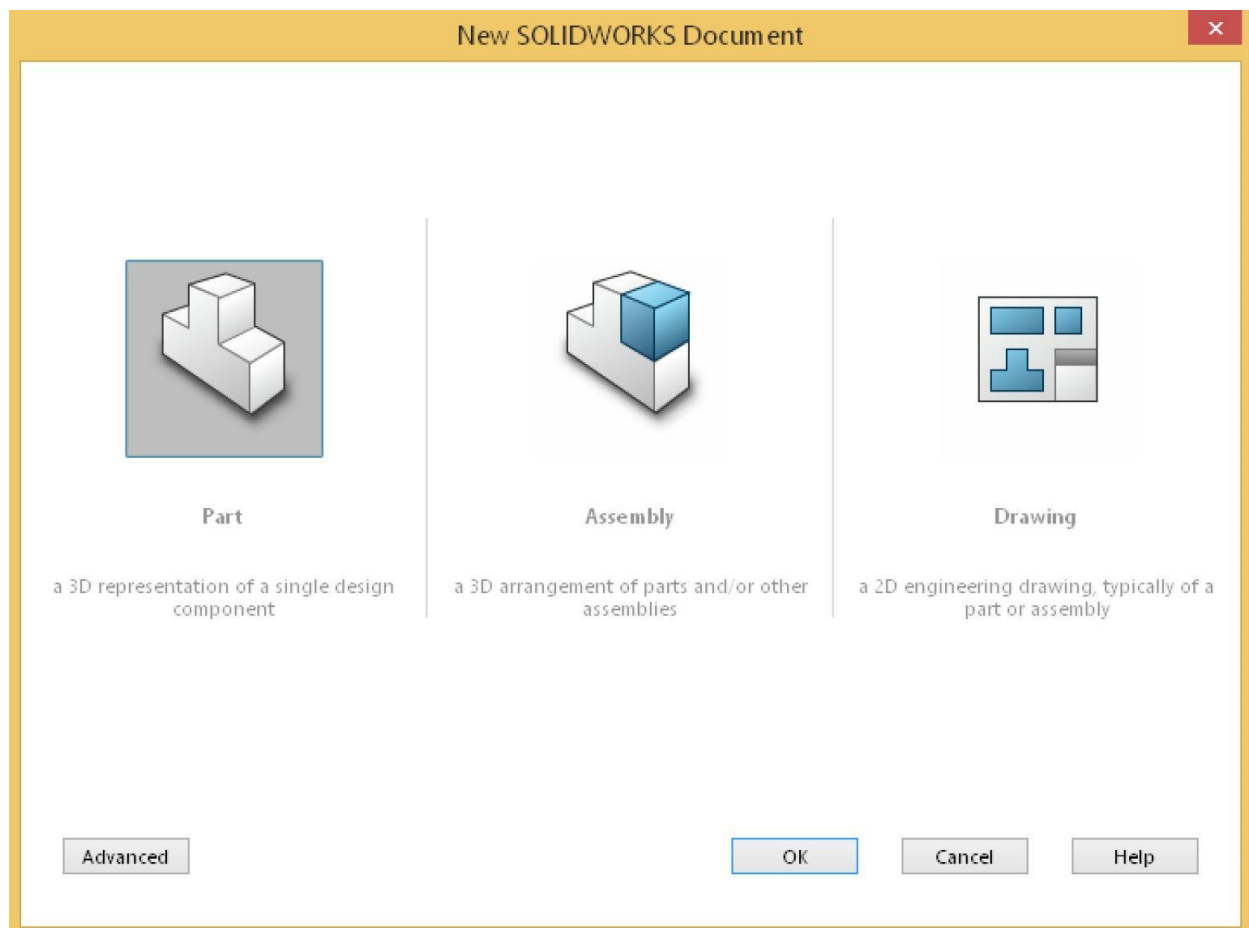

Figure 2-10 *The New SOLIDWORKS Document dialog box*
1. Select the **New Document** option from **Getting Started** rollout of the **SOLIDWORKS Resources** task pane to start a new part document in SOLIDWORKS 2016; the **New SOLIDWORKS Document** dialog box will be displayed, as shown in Figure 2-10. You can also invoke this dialog box by choosing the **New** button from the Menu Bar.